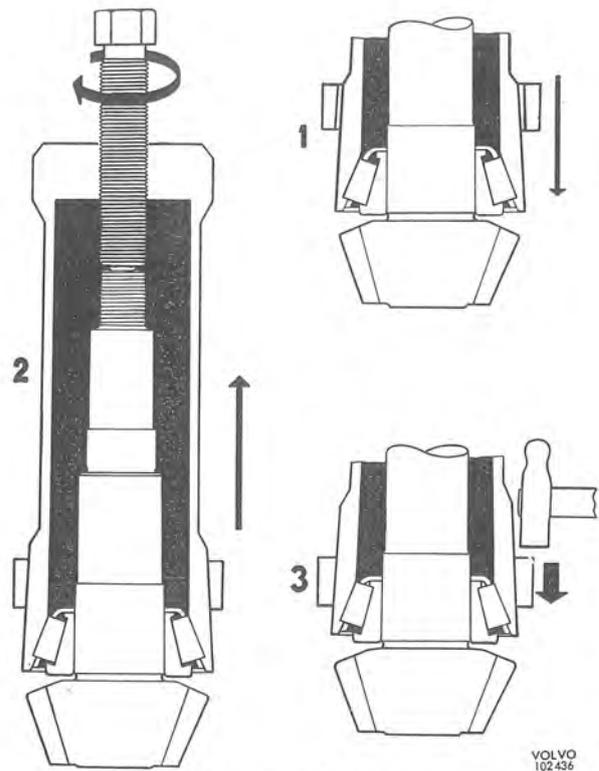
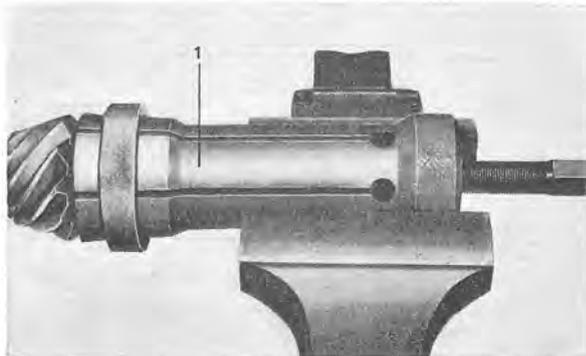

Fig. 4-146. Puller fitted
Fig. 4-145. Removing the rear pinion bearing
11. If necessary, pull off the rear bearing from the pinion with puller SVO 2844, see Fig. 4-145. The puller is fitted in the following way (see Fig. 4-146): Move the puller down over the rollers and press down the lock ring. Then pull up the puller with the bolt until the rollers lie flush with the edge of the inner race and the edge on the puller. Tap out the lock ring with a hammer.